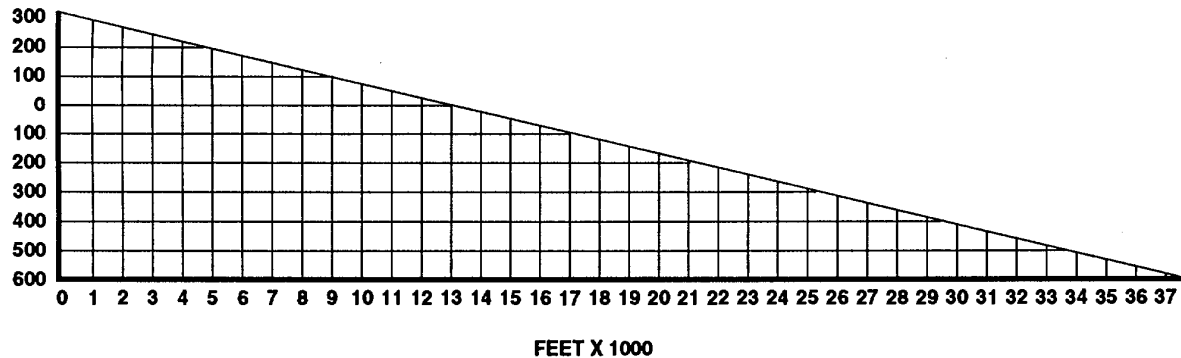

Figure 2-9. Pump spacing Triangle.
- Divide horizontal base of pump spacing triangle, Figure 2-9, into spaces on the same uniform scale used to divide the ground profile graph base. Mark off spaces along pump spacing triangle base to at least 39,000 feet.